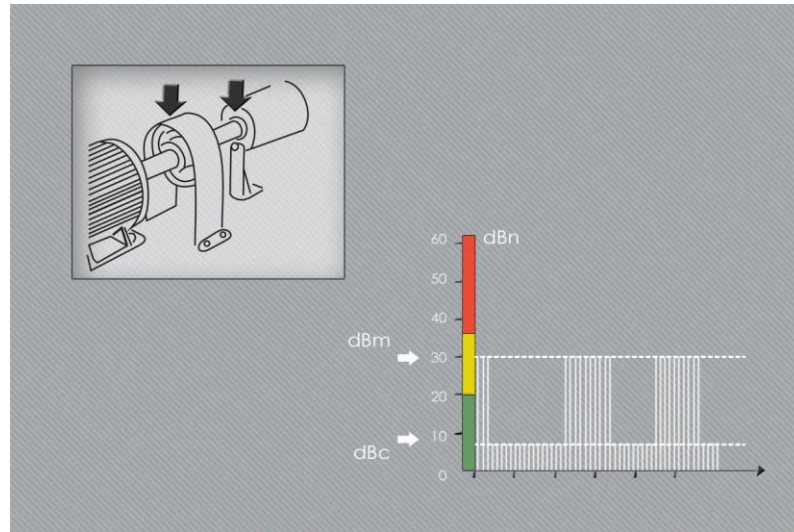

Figure 4-12. Periodic shock pulses.
d) Periodic shock pulses (Figure 4-12).